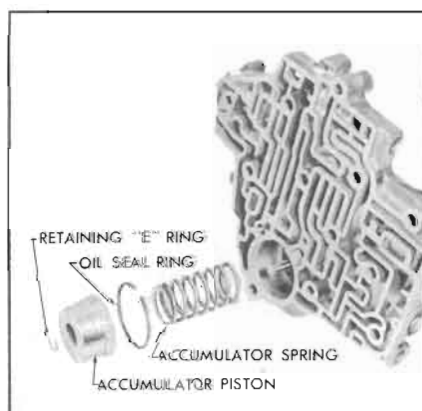

Figure 74-608
4. Remove front accumulator piston and spring. See Figure 74-608.